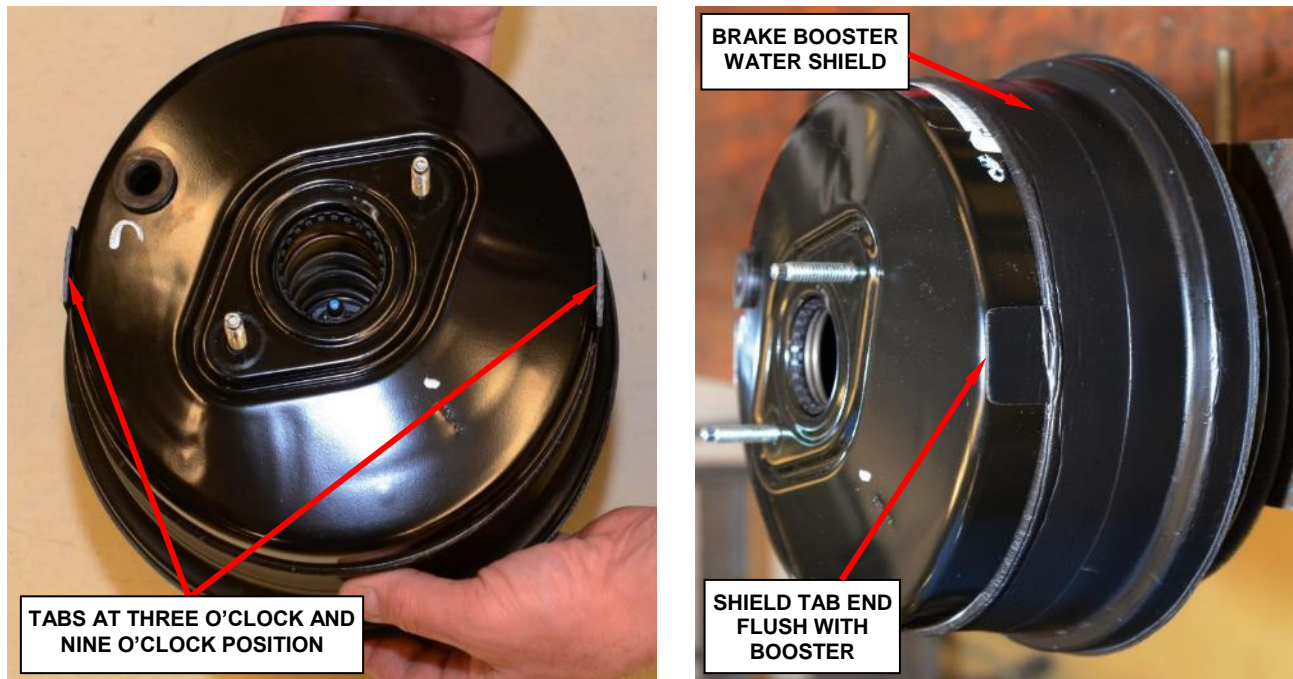

Figure 24 – Correctly Installed Brake Booster Water Shield
18. Install the brake booster water shield onto the brake booster with the locating tabs at the three o'clock and nine o'clock positions. The water shield tab ends should be flush with the edge of the brake booster (Figure 24).